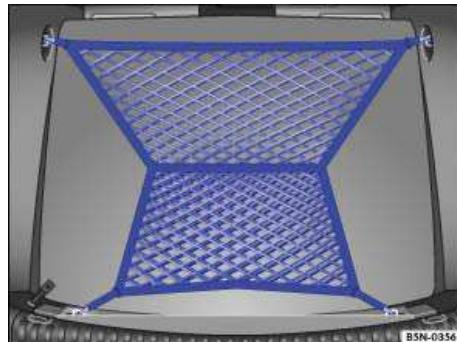

Fig. 106 In the luggage compartment: Luggage net hooked in place.
- First secure the luggage net hooks to the tie-downs at the rear seat backrest ⇒ **fig. 106** ⇒ . The luggage net pocket opening must face upwards.
- Secure the luggage net hooks to the tie-downs at the loading edge of the luggage compartment ⇒ **fig. 106**.
Then secure the short luggage net hooks to the tie-downs at the loading edge of the luggage compartment ⇒ **fig. 106** ⇒ . The luggage net pocket opening must face upwards.